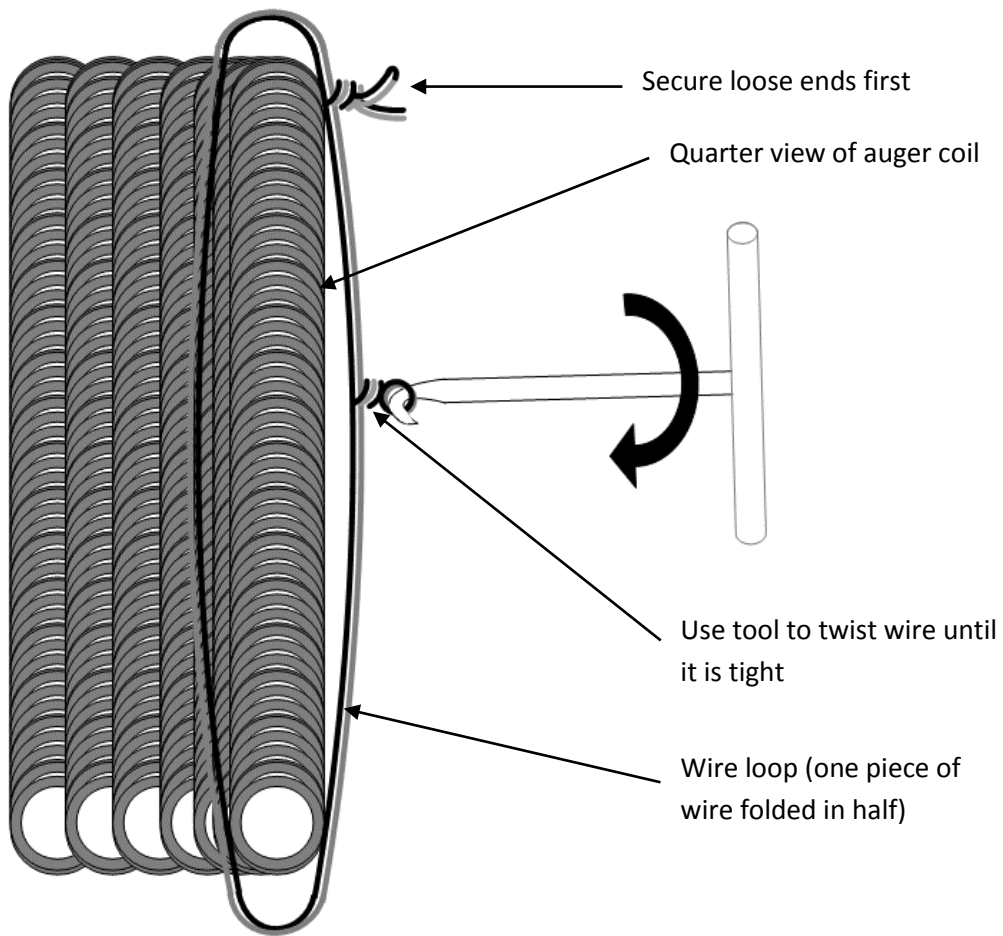

Figure 6: Cross-sectional view of coil with wire loop
3. Now loop the folded wire around the coil as shown in Figure 6.